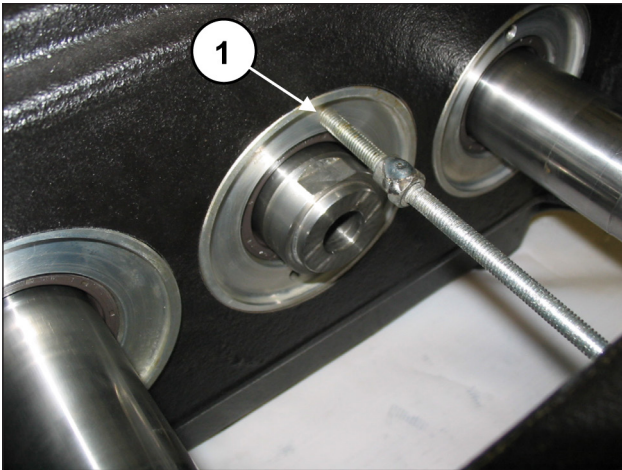
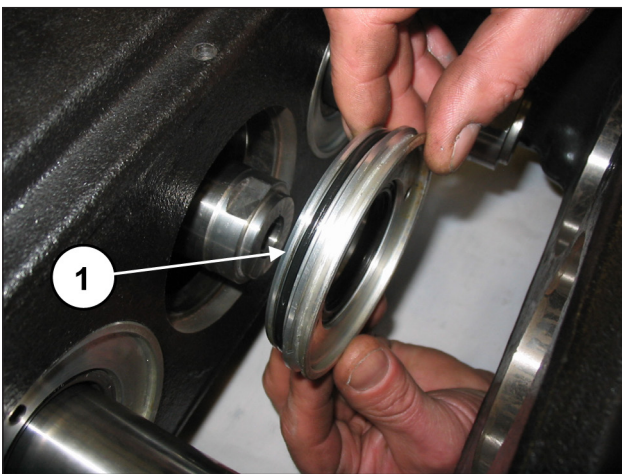

Fig. 4
Fig. 5
Remove the oil seal covers, screwing in a threaded bar or an extractor M6 screw in the holes in the cover (pos. ①, Fig. 4) and remove the covers from the pump assembly (pos. ①, Fig. 5).